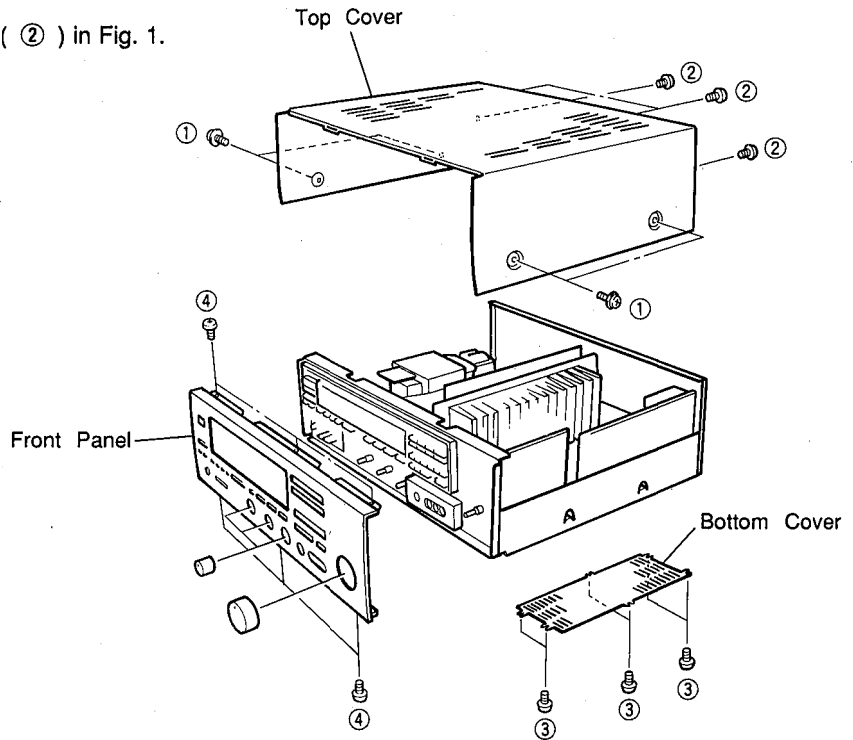

Fig. 1
a. Remove 4 screws (①) and 4 screws (②) in Fig. 1.
a. Remove 6 screws (③) in Fig. 1.
b. Remove 6 screws (④) in Fig. 1.